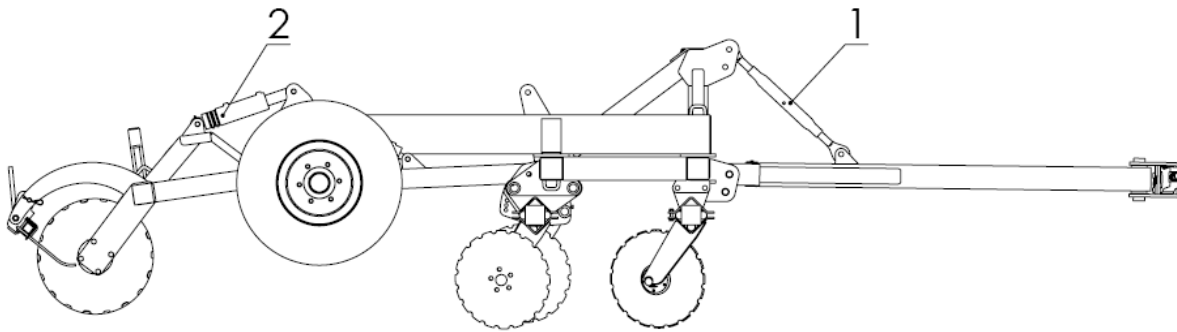

Figure 1. Towing equipment with a disc roller
Cultivators with towing equipment can be adjusted to run level by changing the length of the towing bar's top link (Figure 1, item 1). The working depth is adjusted by changing the length of the roller's hydraulic cylinder (Figure 1, item 2). When changing the working depth, the cultivator's position should be levelled adjusting the height of the drawbars or the length of the top link bar.